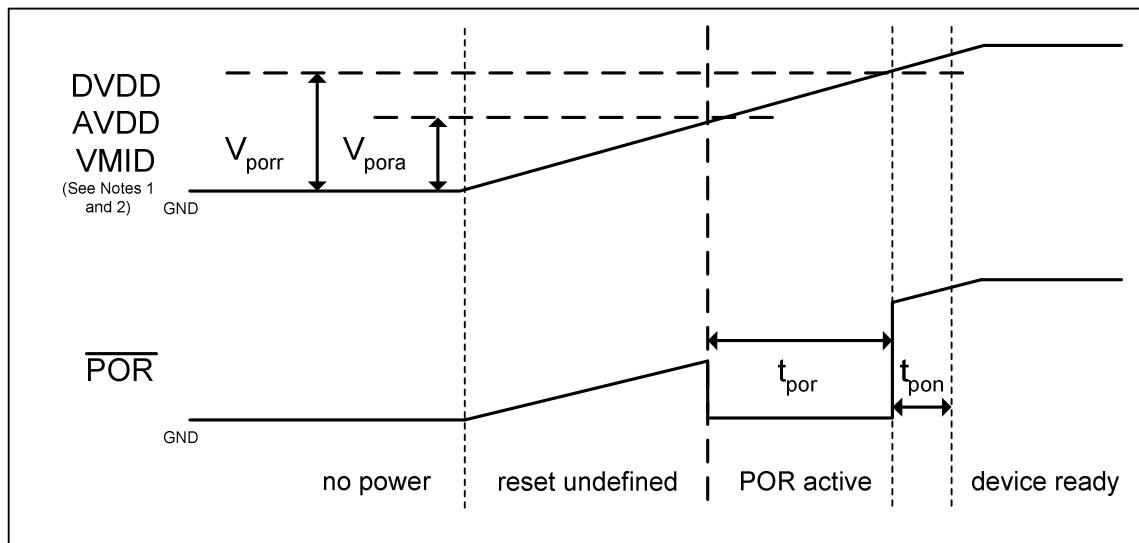

Figure 8 Power Supply Timing Requirements – Power-on
1. POR is activated when DVDD or AVDD or VMID reach their stated V_{pora} level (Figure 8)
2. POR is only released when DVDD and AVDD and VMID have all reached their stated V_{porr} levels (Figure 8).